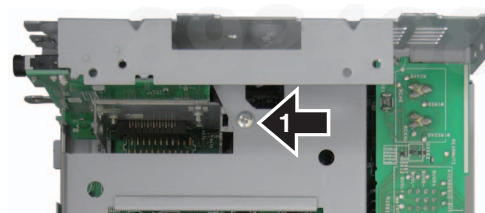

Fig.12
● Removing the the Upper Chassis (Fig.12, 13, 14)
- ➔ 1 Remove the screw.(Fig.12)